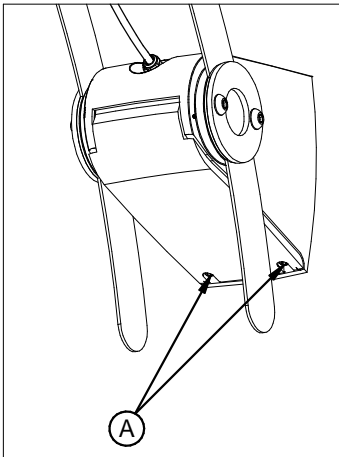

FIG. 2-1
1. LOOSEN AND **SAVE** QTY (2) 1/4-20X .812" SOCKET CAP SCREWS, "A", LOCATED ON THE CAST COVER BALLAST HOUSING. (FIG. 2-1)